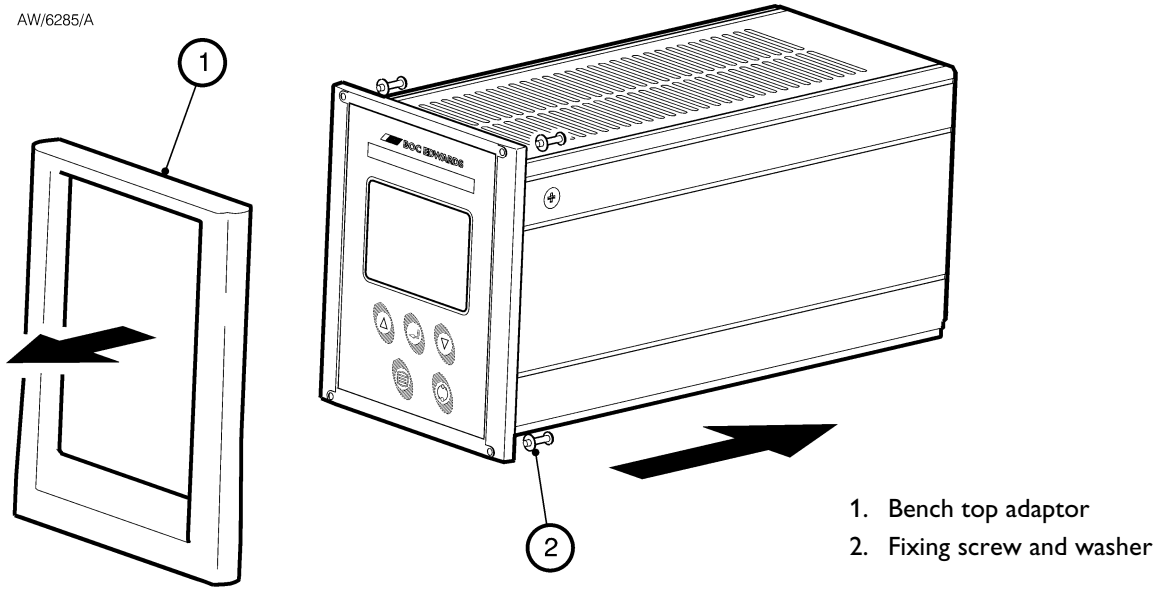

Figure 8 - Front panel removal
If a Controller is fitted in a rack or cabinet, follow the directions given in Figures 8 and 9.
- Remove the bench top adaptor (Figure 8, item 1) by removing the four screws (Figure 8, item 2).